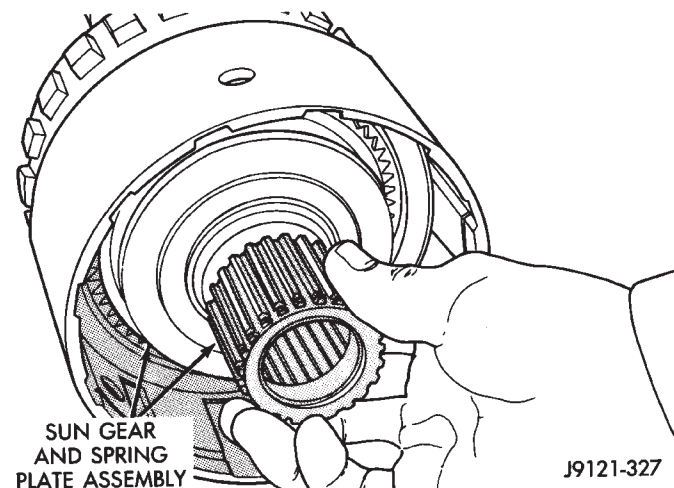

Fig. 219 Sun Gear Installation
(14) Install assembled sun gear, spring plate and thrust bearing (Fig. 219). Be sure sun gear and thrust bearing are fully seated before proceeding.